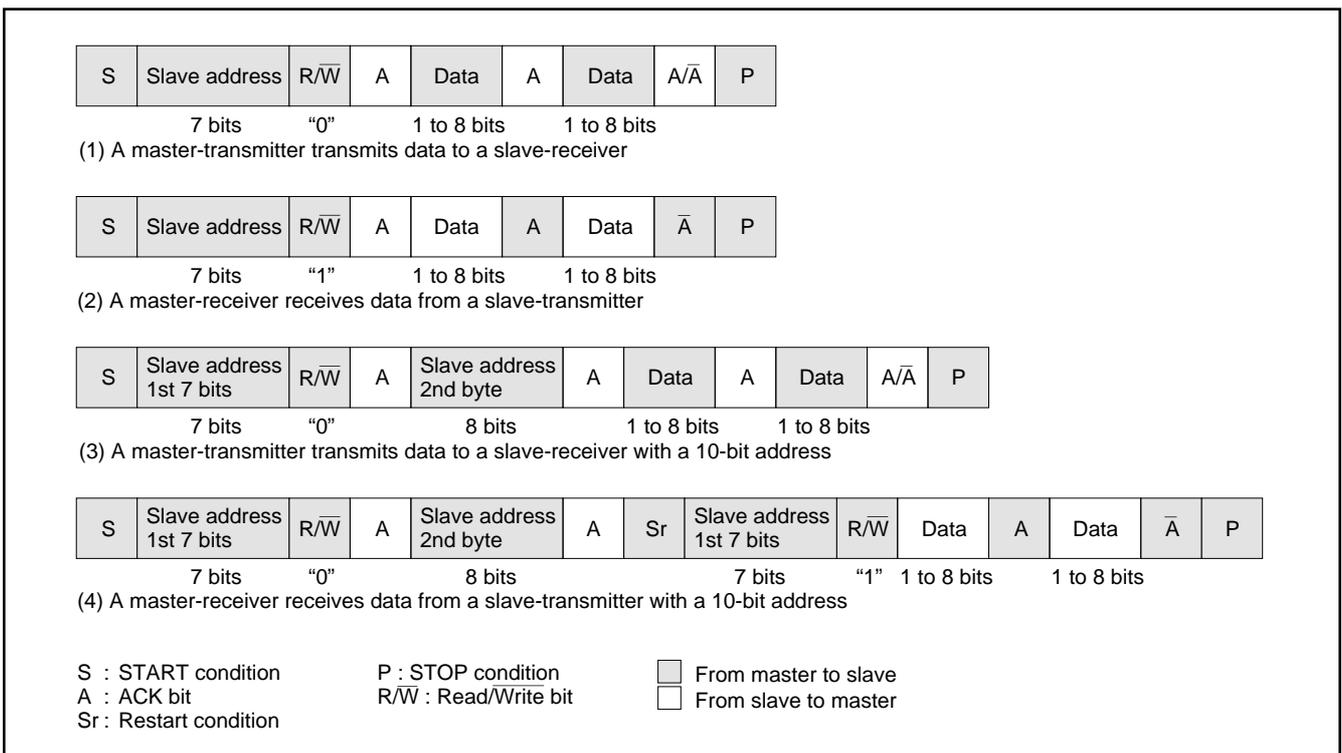

Fig. 49. Address data communication format
To meet the 7-bit addressing format, set the 10BIT SAD bit of the I2C control register (address 00F916) to "0." The first 7-bit address data transmitted from the master is compared with the high-order 7-bit slave address stored in the I2C address register (address 00F716). At the time of this comparison, address comparison of the RBW bit of the I2C address register (address 00F716) is not made. For the data transmission format when the 7-bit addressing format is selected, refer to Figure 49, (1) and (2).
When the first-byte address data matches the slave address, the AAS bit of the I2C status register (address 00F816) is set to "1." After the second-byte address data is stored into the I2C data shift register (address 00F616), make an address comparison between the second-byte data and the slave address by software. When the address data of the 2 bytes matches the slave address, set the RBW bit of the I2C address register (address 00F716) to "1" by software. This processing can match the 7-bit slave address and  $\overline{R/W}$  data, which are received after a RESTART condition is detected, with the value of the I2C address register (address 00F716). For the data transmission format when the 10-bit addressing format is selected, refer to Figure 49, (3) and (4).